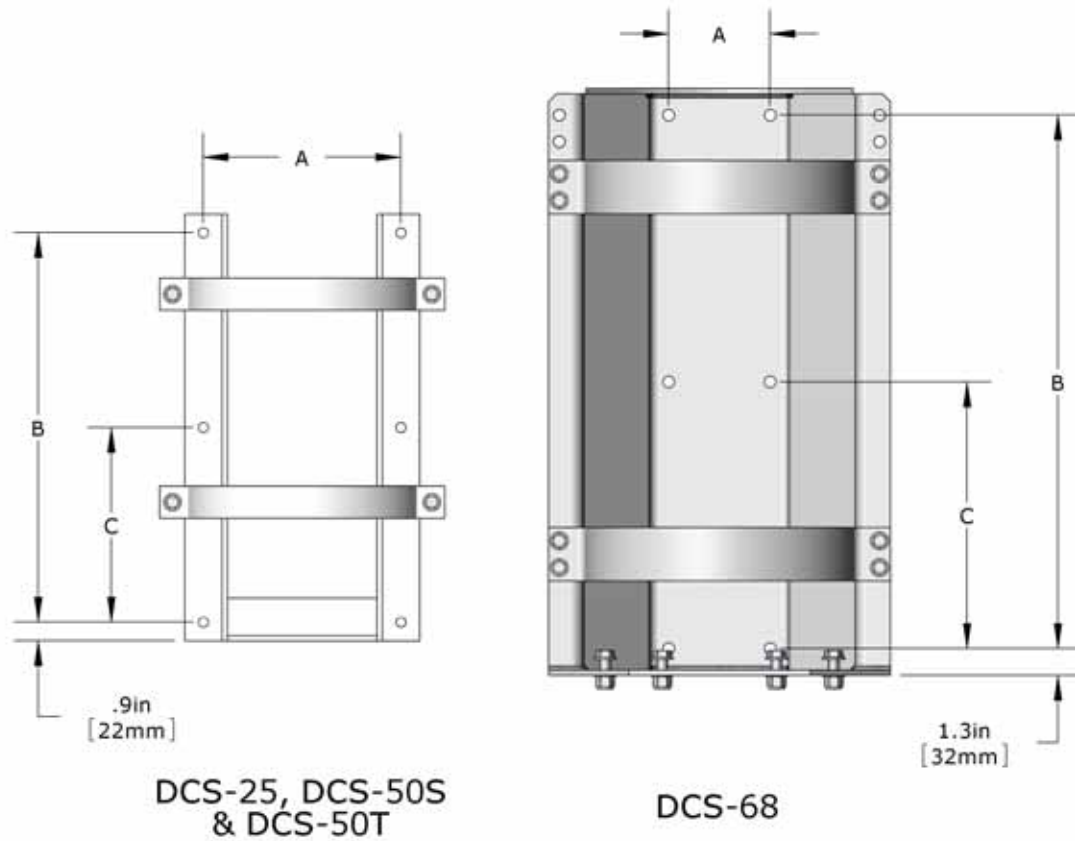
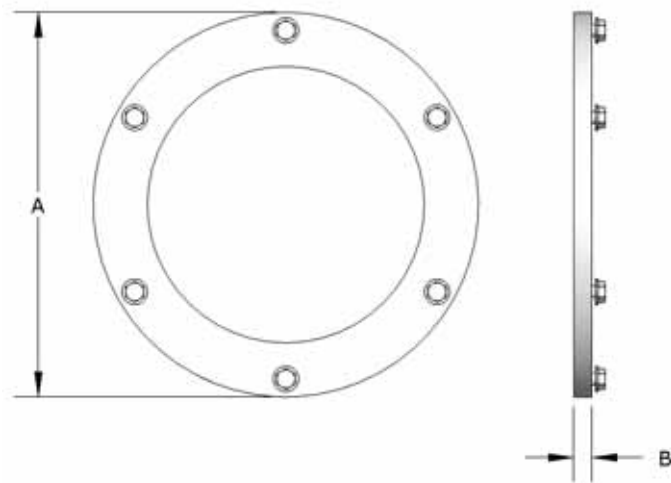

Figure 4-1. Sentinel DCS-25, DCS-50S, DCS-50T, and DCS-68 Cylinder Mounting Bracket Dimensions
Figure 4-2. DCS-50S and DCS-68 Deck Mount Flange Dimensions
The specifications of the Sentinel DCS-25, DCS-50S, DCS-50T, and DCS-68 cylinder mounting brackets are shown in Figure 4-1 and listed in Table 4-2.
The dimensions and specifications of the Sentinel DCS-50S and DCS-68 Deck Mount Flange are shown in Figure 4-2 and listed in Table 4-3.
1. Refer to the bracket hole patterns and dimensions in Figure 4-1, Table 4-2, Figure 4-2, and Table 4-3 to determine the bracket bolt locations.